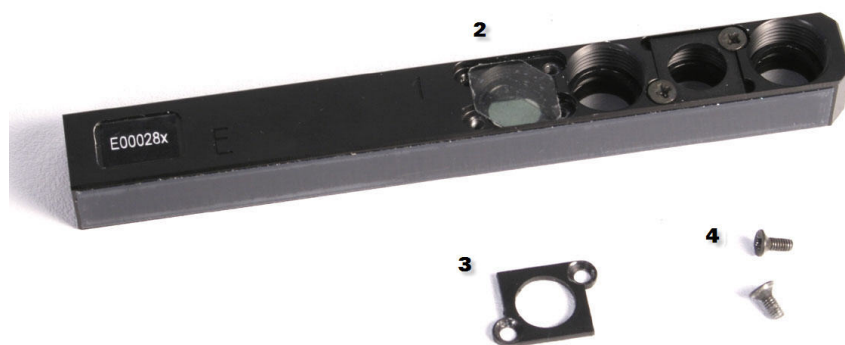

Figure 5–39. Installing the small polarizer film into an excitation filter slide
2. Insert the polarizer film with its convex side up in the S direction above the excitation filter as shown in Figure 5–39.